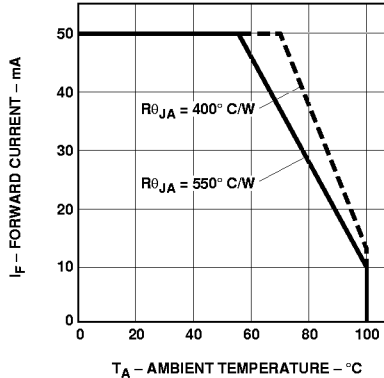

Figure 6. Maximum Forward DC Current vs. Ambient Temperature. Derating Based on $T_{J,MAX} = 110^\circ\text{C}$.
3. Derate linearly as shown in Figure 6.